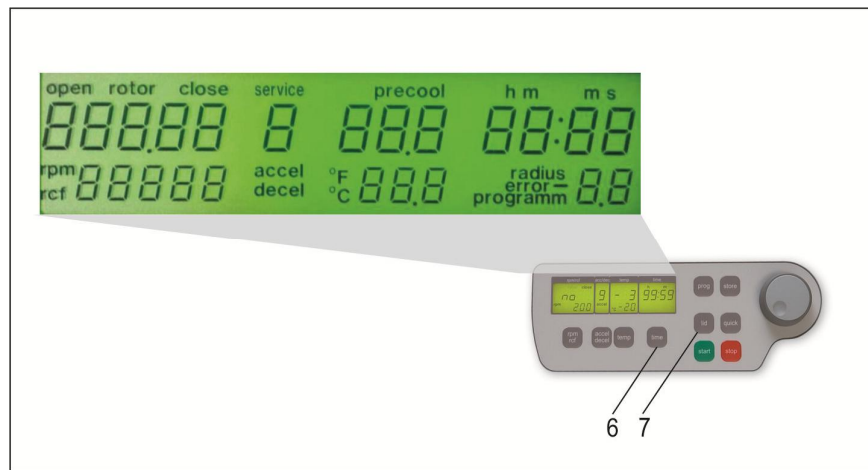

Figure 2
If the centrifuge is still turned off, press simultaneously the keys „time“ (6) and „lid“ (7) and turn on the main switch of the centrifuge. Now release both keys again. As a result a display test is executed for approx. 5 seconds. All possible indications will appear at the same time (see figure 2).